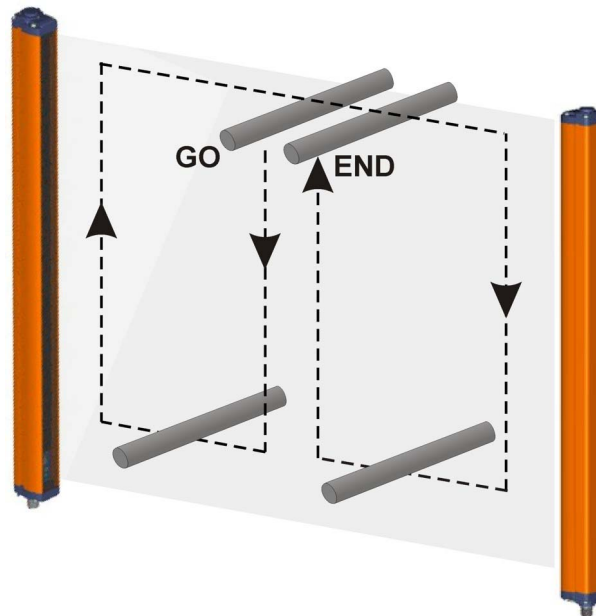

Fig 20 - Path of the test piece
- ESPE remains blocked (➡ lit RED) intercepting the beams along the protected area using the specific test piece, following the scheme in **Fig 20 - page 24**.